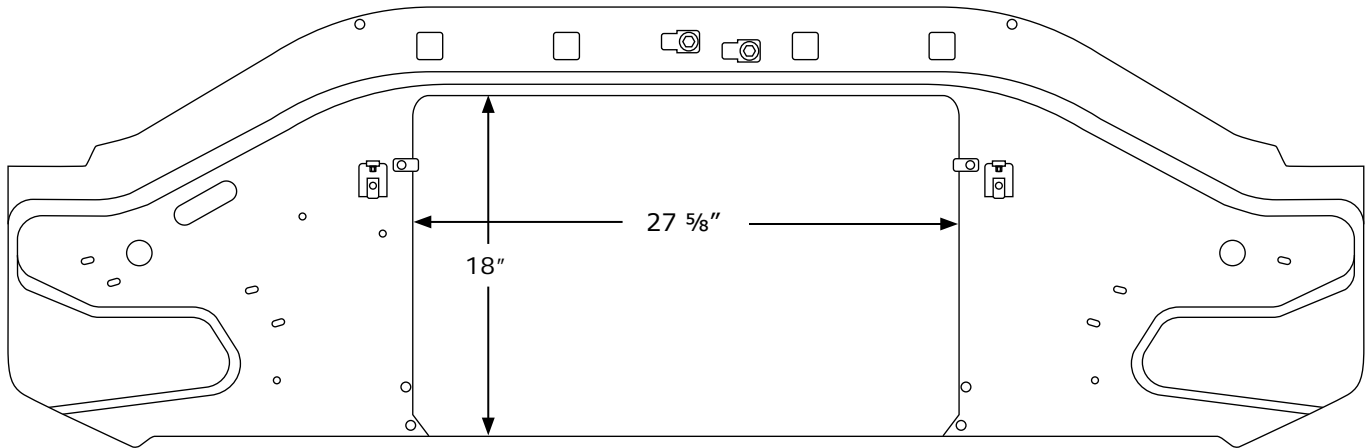

Figure 1
- The 6-cylinder core support opening is smaller than the V8 core support opening. If the core support opening width is less than 27 5/8" (See Figure 1, below), the core support will need to be modified following the steps on Page 8.